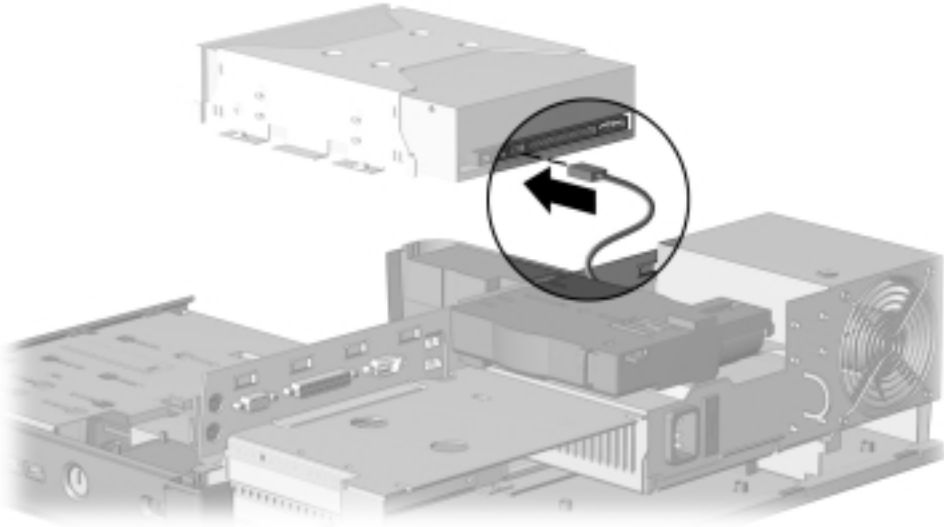

Figure 5-21. Connecting the CD-ROM Drive/Audio Cable
15. If a CD- or DVD-ROM drive is being installed, connect the CD-ROM drive/audio cable to the connector (Figure 5-21).